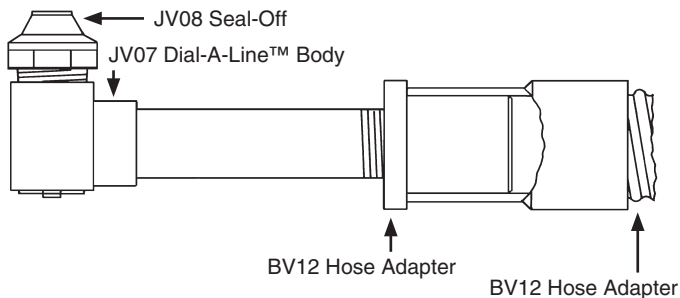

Figure 19. Blowing a line in the conduit
2. Insert the BV12 hose adapter in the other end of the hose. Screw the handle end of the JV07 Dial-A-Line™ body into the hose adapter. Select either the JV08 or JV09 seal-off and screw it into the JV07. See Figures 19, 20 and 21.